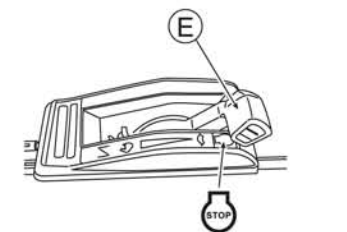

Fig. 14
2. Set Throttle lever (E) to "STOP". (See Fig. 14)